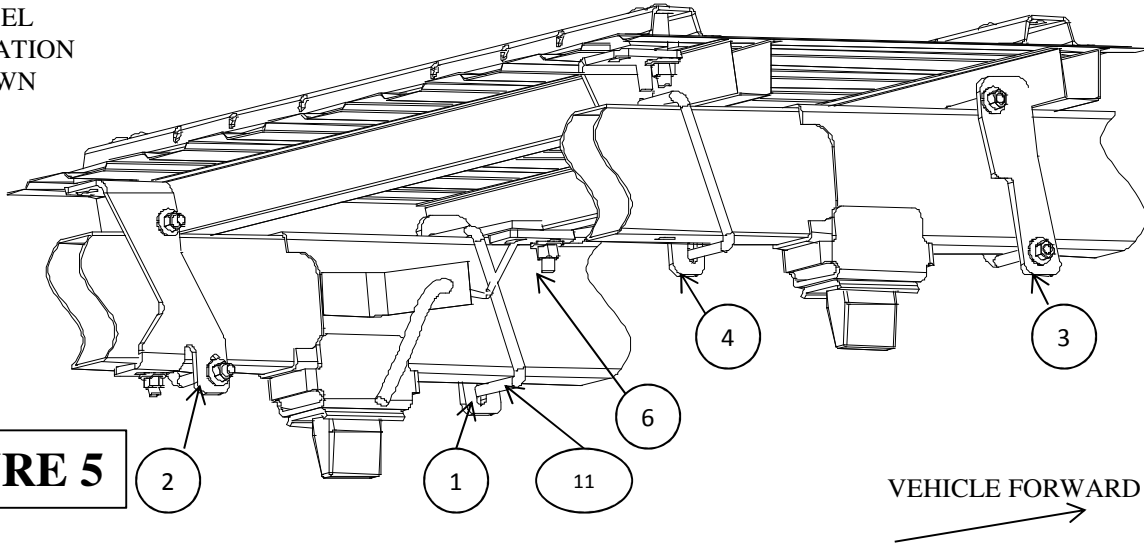

FIGURE 5
- b) Install a u-bolt (11) on each of the brackets. The u-bolt wraps around the inside of the frame. Loosely install 1/2 in. conical washers (8) and hex nuts (12) onto the ends of the u-bolts. **NOTE: The u-bolt on the driver side must be placed between the brake line and the frame. See Figure 5. Improper placement of the driver side u-bolt may result in damage to the vehicle's braking system. Move the electric wiring harness out of the way.**
15. Insert a 5/8 in. x 6 in. long carriage bolt (6) down through the rail, bed support, 4 in. tube spacer (4) and out through the frame bracket below. Install a 5/8 in. conical washer (19) and 5/8 in. hex nut (14) on the bolt.